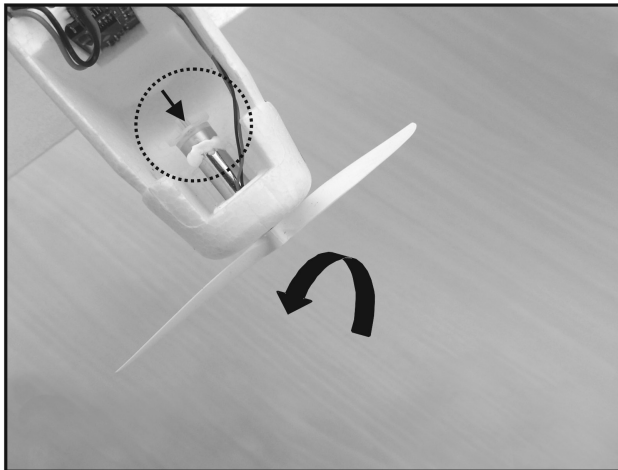

Figure 15
- Secure the lower large gear wheel with your finger (see arrow in figure 15).